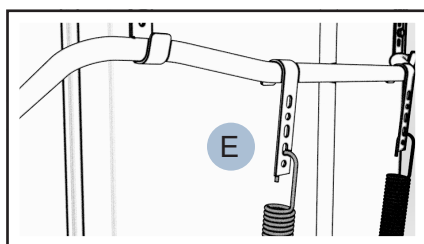

Fig. 10 - Door Spring Hooks (E) Tension Adjustment
5. Disconnect the door linkage arm (C) from the other door but do not discard.
7. Adjust the door spring hooks (E) located at the rear of dishwasher to reduce door spring tension until the front and side doors open and close without binding (see Fig. 10).